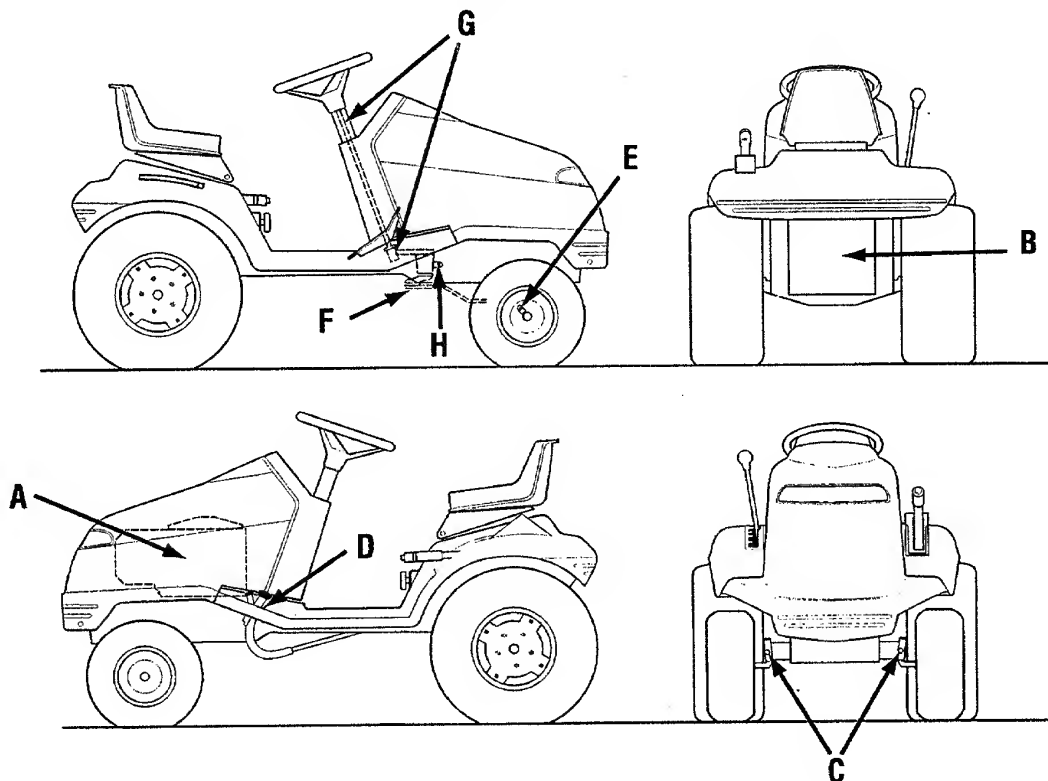

Fig. 6-22
- Route belt around sheaves as shown in Fig. 6-22.
- Adjust belt guides (E) 1/16" to 1/8" away from belt. Secure guides (E).
- Adjust belt guide (F) so it is pointing straight to the right of the unit as shown in Fig. 6-22. Secure guide (F).
- Adjust belt guide (Z) so it is pointing as shown in Fig. 6-22, 1/16" to 1/8" away from belt. Secure guide (Z).
Lubrication Chart (refer to Fig. 6-22)